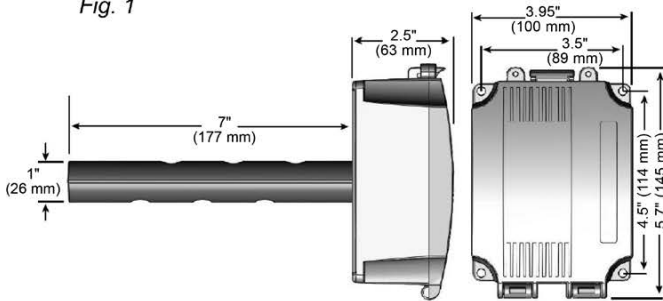

Fig. 2
- Duct sensor installs on the outside of a return air duct, the sampling tube inserted into the duct. Use the included foam plug to prevent air from entering the enclosure through the conduit, which could cause incorrect readings. Mount the sensor at an easily accessible location in a straight section of the duct, at least five feet from corners or other items that might cause disturbances in the air flow. (Fig. 2)